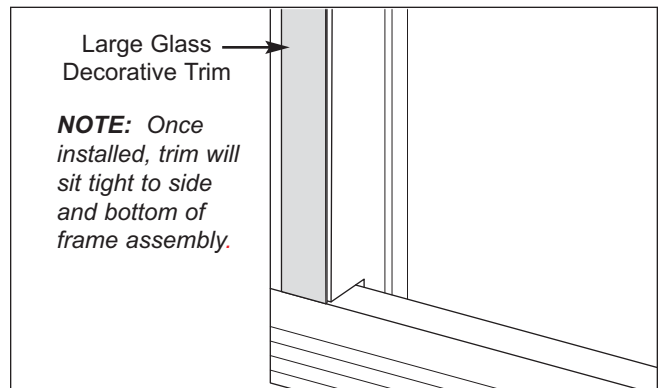

Figure 3. Decorative Trim / Unframed Assembly
4. Adhere decorative trim panels to the side brackets, so they are tight to the side and bottom of the frame assembly (See Figures 3 & 4). **NOTE:** The two pieces of foam tape are to be used if gaps appear between the frame and the microwave perimeter. If gaps are present, remove the trim and adhere the foam tape to the microwave where needed.